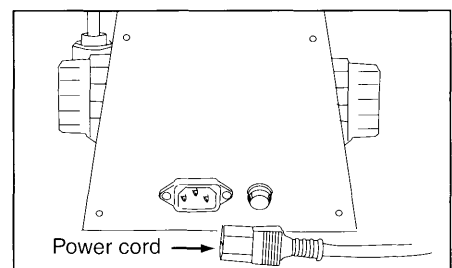
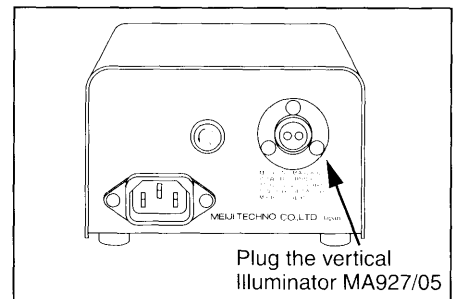

Figure 5
Figure 9
- Plug the power cord into the microscope and the other end into a grounded outlet. (Fig.5)
- Plug the cord from the vertical illuminator into the back of the standalone power supply (MA927/05)(Fig.9) and plug the power cordset into the microscope and the other end into a grounded outlet.(Fig.5)